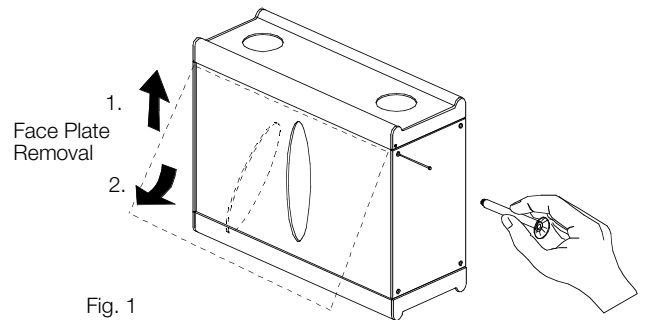

Fig. 1
1. First remove the Face Plate, by lifting upward & pulling out using the Tissues/Masks opening slot. If your cabinet does have a slot, use the Suction Cup Tool (SCT) provided in this package. (Fig. 1) Remove plate and set aside any loose contents.